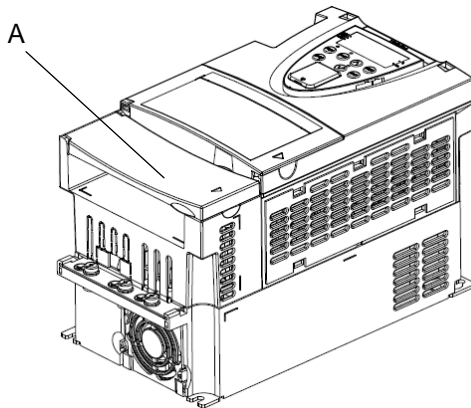

Figure 4
Step2: Remove the power terminal protective cover (A). Please refer to the instruction manual of inverter for details. See figure 4.